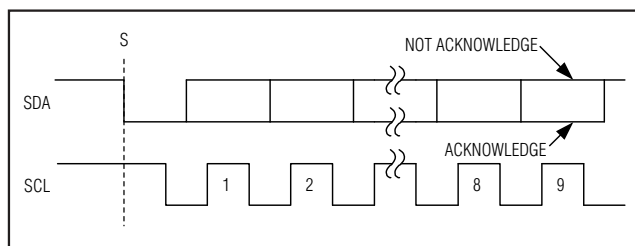

Figure 6. Acknowledge Bits
Data transfers are acknowledged with an acknowledge bit (A) or a not-acknowledge bit (NA). Both the master and the MAX11612-MAX11617 (slave) generate acknowledge bits. To generate an acknowledge, the receiving device must pull SDA low before the rising edge of the acknowledge-related clock pulse (ninth pulse) and keep it low during the high period of the clock pulse (Figure 6). To generate a not-acknowledge, the receiver allows SDA to be pulled high before the rising edge of the acknowledge-related clock pulse and leaves SDA high during the high period of the clock pulse. Monitoring the acknowledge bits allows for detection of unsuccessful data transfers. An unsuccessful data transfer happens if a receiving device is busy or if a system fault has occurred. In the event of an unsuccessful data transfer, the bus master should reattempt communication at a later time.